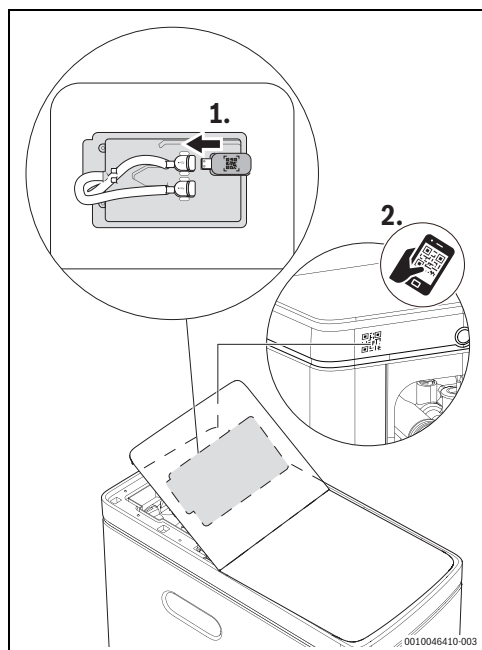

Fig. 32 QR code location
- On the HomeCom Easy, scan the QR-code that you can find on the product, as described in (→ Fig. 32).